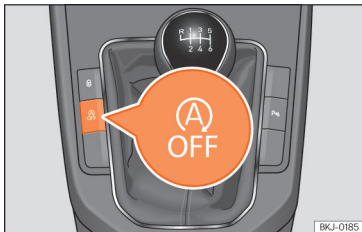

Fig. 139 Centre console: Start-stop system button.
- To manually switch on/off the Start-Stop system, press the  button »» Fig. 139.